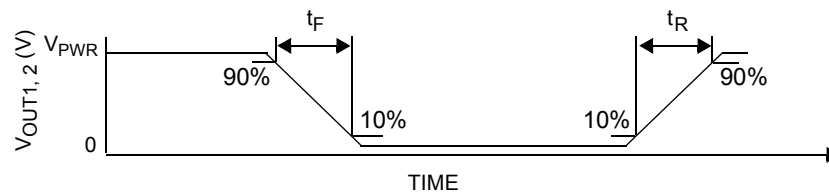

Figure 6. Output switching time
27. Rise Time is from the 10% to the 90% level and Fall Time is from the 90% to the 10% level of the output signal with  $V_{\text{PWR}} = 24\text{ V}$ ,  $R_{\text{LOAD}} = 3.0\text{ ohm}$ . See Figure 6, page 10.